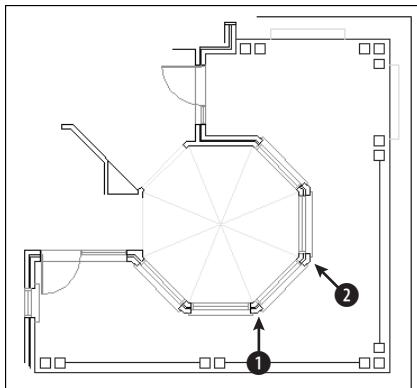

Figure 14-12: A section of a floor plan of a house
2. Save the file as *ab14-03.dwg* in your AutoCAD Bible folder. This is the same drawing used in the previous Step-by-Step exercise, as shown in Figure 14-12. OSNAP should be on. Set running object snaps to endpoint and intersection. If the Dimension toolbar isn't visible, choose View ⇄ Toolbars and check Dimension. Click Close.
Choose **1** in Figure 14-12.
Specify second extension line origin: Choose **2** in Figure 14-12.